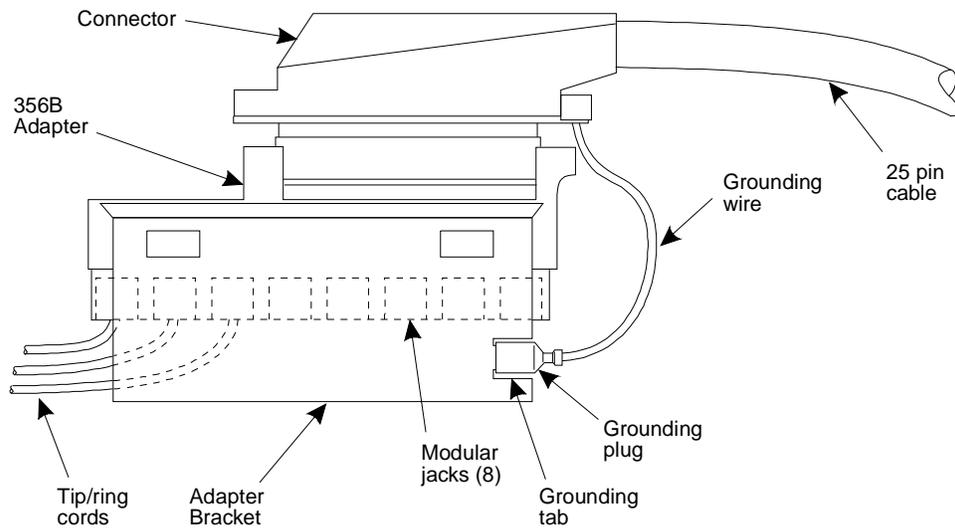

Figure 3-1. Tip/Ring Distribution Hardware Assembly
The Tip/Ring distribution hardware (Figure 3-1) comes in a kit which consists of:
2. Verify that all of the necessary components are included (Figure 3-1).
4. Plug the 3-foot, 6-pin modular cords from the Tip/Ring circuit cards into the 356B adapters. Each adapter can accommodate eight modular cords (Figure 3-1).